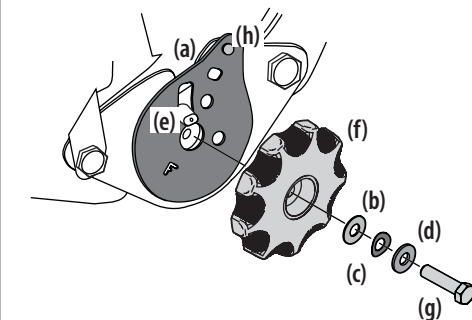

Figure 2-12
- Remove the seat tilt knob assembly from the bag and install as shown in Figure 2-12.
Note: Be sure to orient the recliner plate (a) and install the plastic washer (b), spring washer (c) and metal washer (d) as shown in Figure 2-12. The plastic washer is on the inside.
- Slide the recliner bearing plate (a) onto the recliner pin (e). Refer to Figure 2-12.